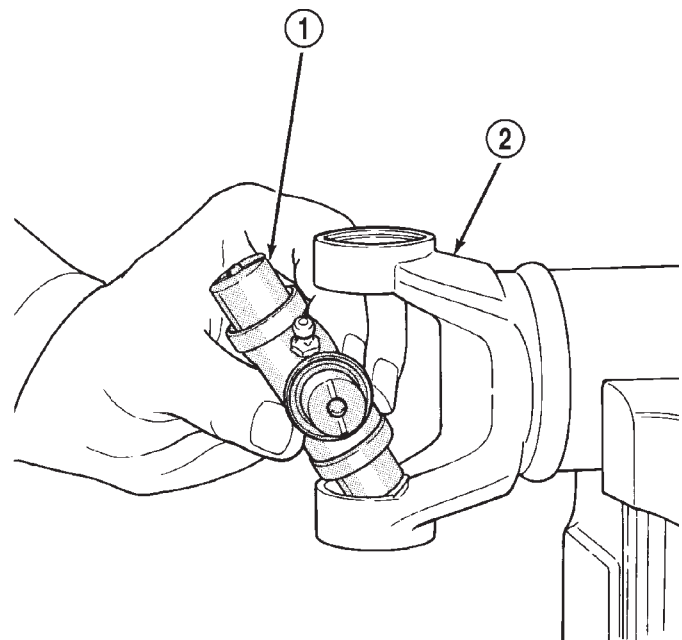

Fig. 21 Install Cross In Yoke
(1) Apply extreme pressure (EP) N.L.G.I. Grade 1 or 2 grease to inside of yoke bores to aid in installation.
(2) Position the cross in the yoke with its lube fitting, if equipped, pointing up (Fig. 21).